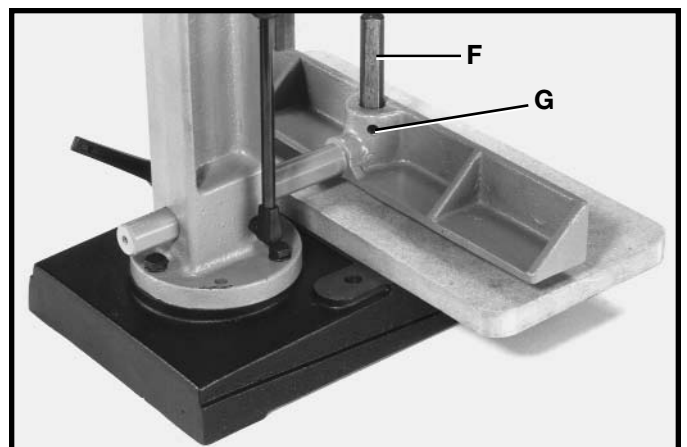

Fig. 12
6. Insert bar (F) Fig. 12, into hole on top of fence as shown, and tighten set screw (G) against flat on bar (F).